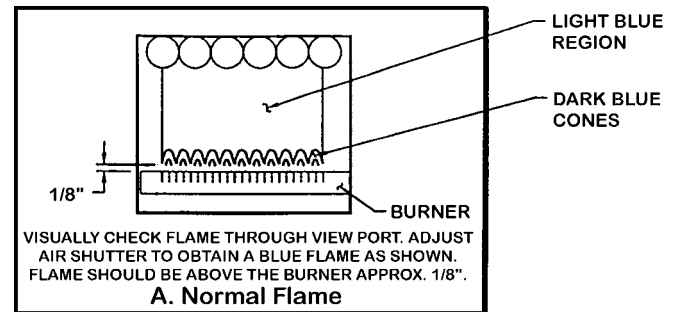

Figure 18. Normal Flame Characteristics
This is a powered burner and the flame is not supposed to be on the burner. The flame should be just above the burner deck approximately 1/8" and blue in color; see Figure 18.
Visually check flame characteristics through the view port located under the left-hand header on the boiler. Figure 18 shows the normal flame condition. Also, refer to the flame label on the unit (adjacent to the view port).
- Cause no excessive lifting of flame from burner ports; see Figure 18.